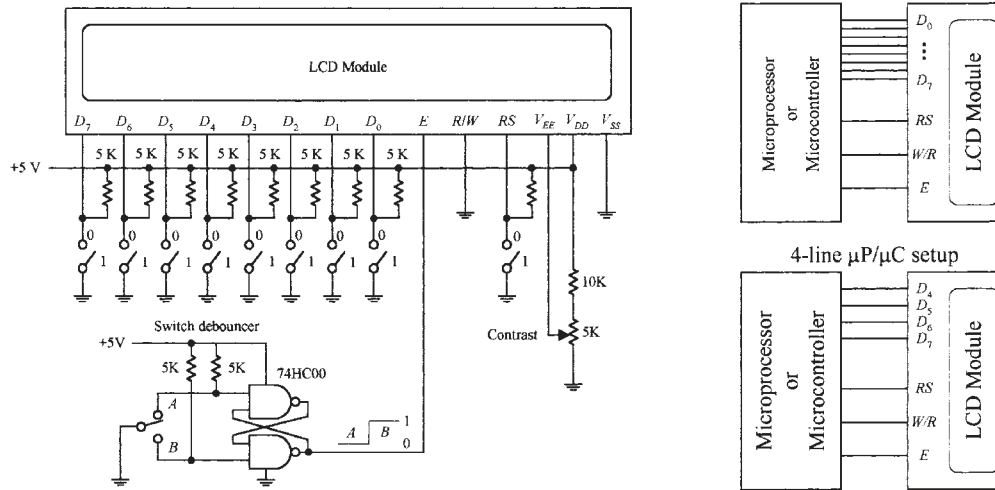

FIGURE 12.140
Figure 12.140 shows a simple test circuit that is quite useful for learning how to send commands and character data to the LCD module. (In reality, the LCD module is connected to a microprocessor or microcontroller, as shown to the left in the figure.) In this circuit, switches connected to data inputs use pullup resistors in order to supply a high (1) when the switch is open or supply a low (0) when the switch is closed.